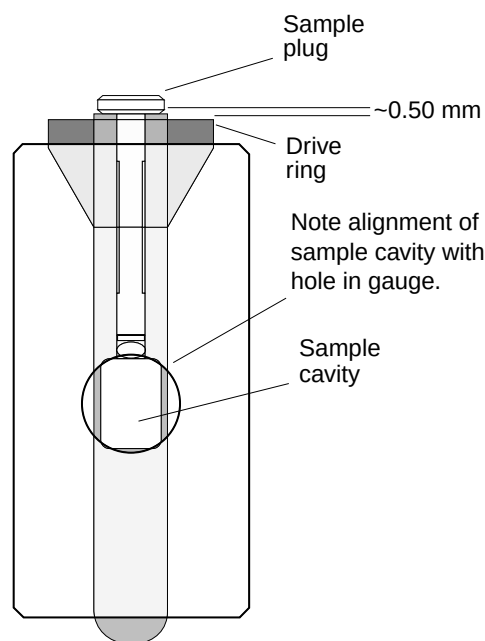

Figure 38. Nano Probe Sample Depth Gauge with Sample Tube
- a. Check the location of the drive ring relative to the sample cavity by inserting the sample tube (with drive ring) into the sample depth gauge, as shown in **Figure 38**.
Applying a small amount of Eastman 910 to the juncture of the plug and sample tube (see **Figure 38**) might help slow down solvent evaporation.